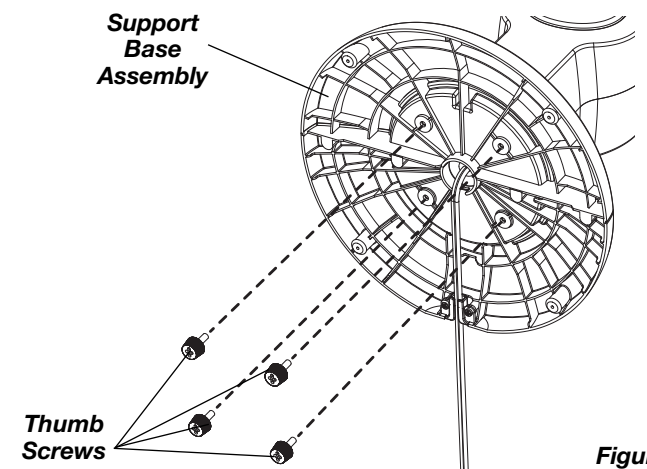

Figure 2
3. Secure the (4) **thumb Screws** into the four holes in the bottom of the base. (*Figure 2*)